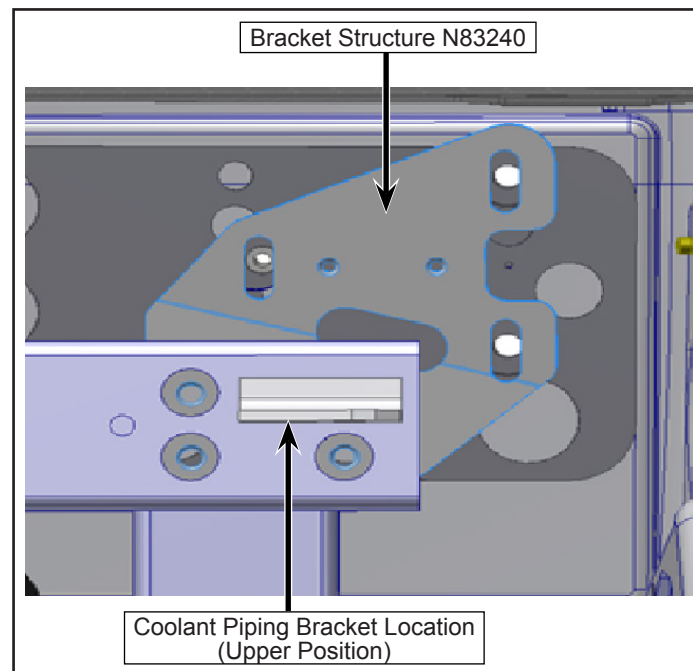

*Figure 17 - Location of Bracket Structure N83240*
- 1.19. Place N83240 bracket structure on the coolant piping support bracket (see Figure 17).